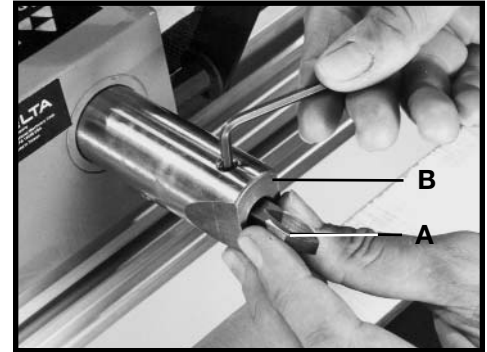

Fig. 47
3. Ensure that cutting tool (A) Fig. 47 is approximately 1" out from tool holder (B).